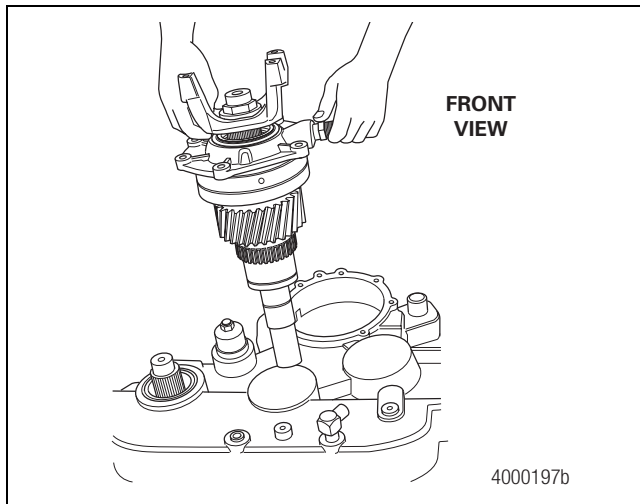

Figure 4.3
4. With the front input yoke still installed, remove the yoke, input shaft, input bearing cage and pump as an assembly. Figure 4.3.